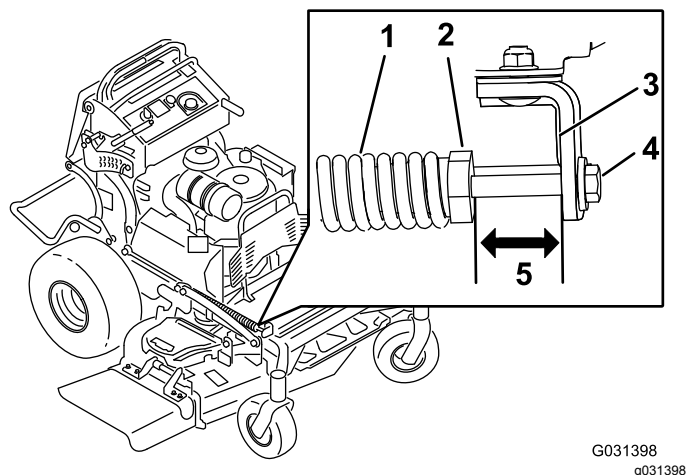

Figure 83
2. Check the distance between the spring nut and the rear side of the welded mount bracket (Figure 83).
3. Ensure that the length is between 47 to 50 mm (1.8 to 2 inches) (Figure 83).
4. If needed, adjust the distance by adjusting the bolt on the front of the mount bracket (Figure 83).